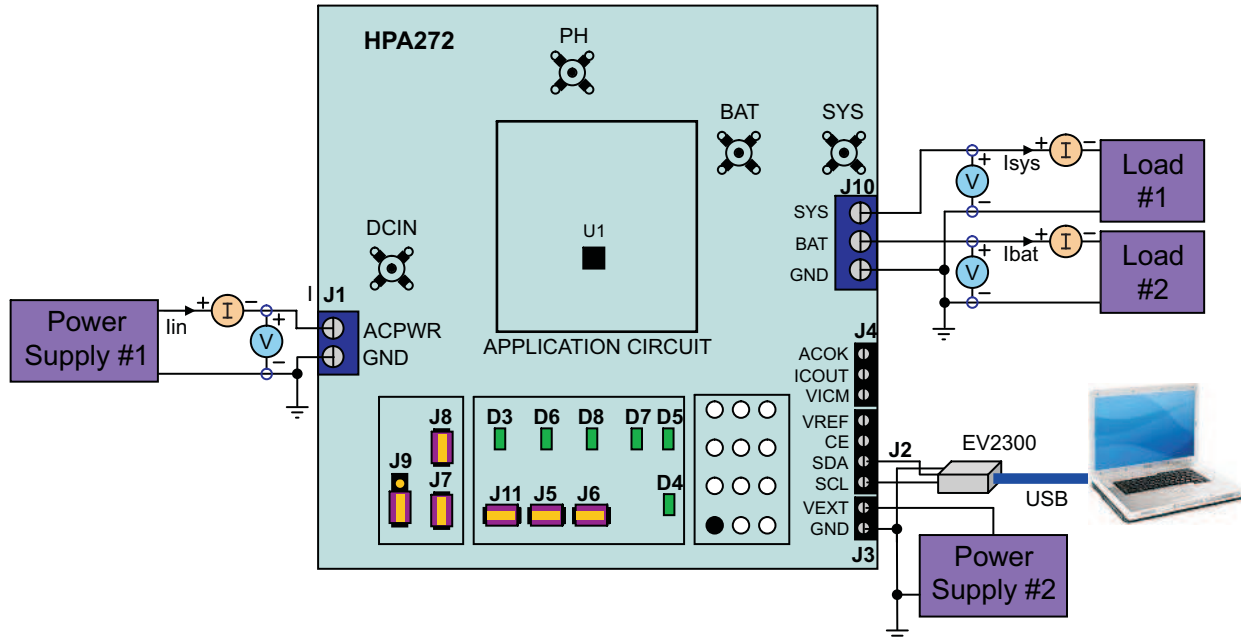

Figure 4. bq24745 EVM (HPA272) Test Setup
8. Make sure  $I_{\text{bat}} = 0\text{ A} \pm 10\text{ mA}$  and  $I_{\text{sys}} = 0\text{ A} \pm 10\text{ mA}$ . Your bq24745 (HPA272) test setup should look like Figure 4.